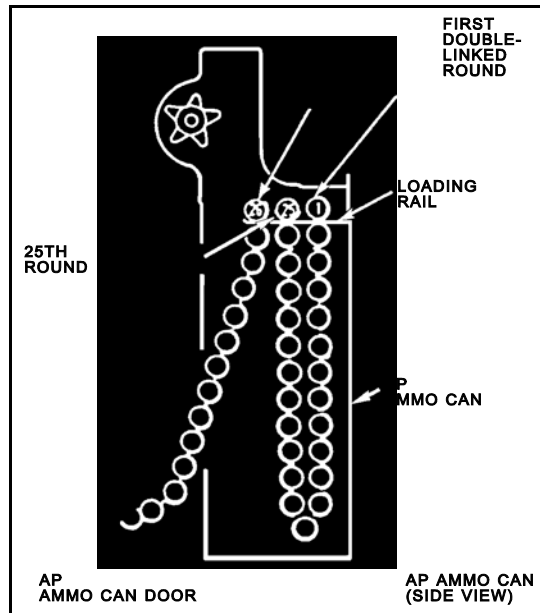

Figure 4. Loading rail.
- b. Count the next 25 rounds. Hang both the 25th and the 26th rounds onto the loading rail (Figure 4).